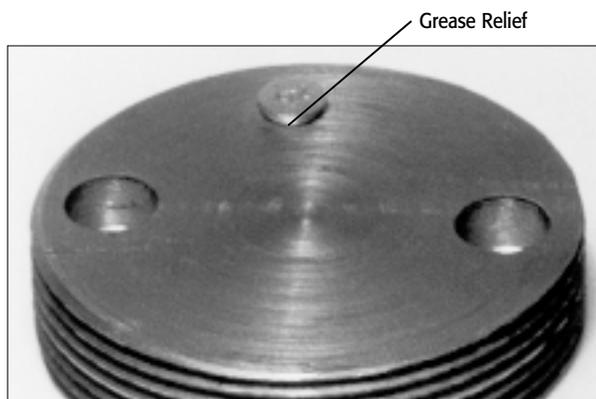

Figure 7 – Grease Relief
2. The newest Gunite slack adjusters are produced without a grease relief, forcing lubricant through the drilled worm wheel onto the camshaft. Previous designs incorporated a grease relief (see fig. 7).